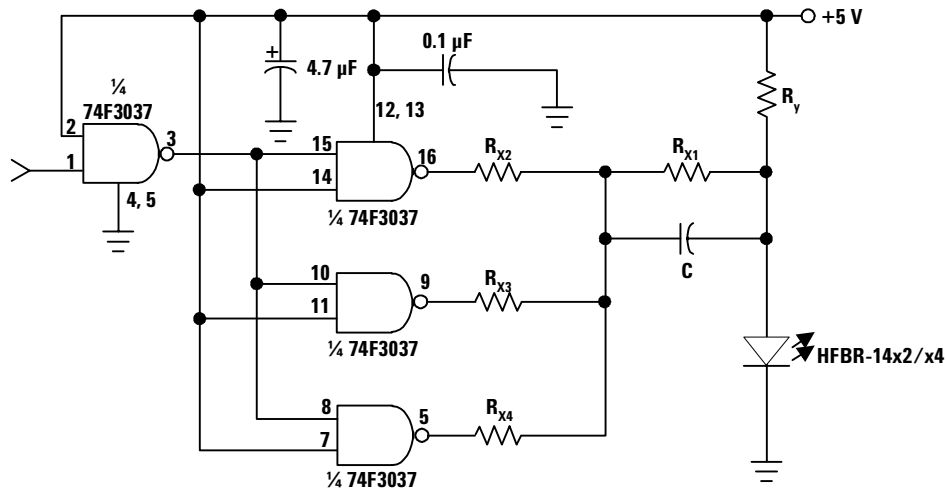

Figure 11. Recommended Drive Circuit.
- Pre-bias is recommended if signal rate >10 MBd, see recommended drive circuit in Figure 11.
Figure 11 uses frequency compensation to reduce the typical rise/fall times of the LED and a small pre-bias voltage to minimize propagation delay differences that cause pulse-width distortion. The circuit will typically produce rise/fall times of 3 ns, and a total jitter including pulse-width distortion of less than 1 ns. This circuit is recommended for applications requiring low edge jitter or high-